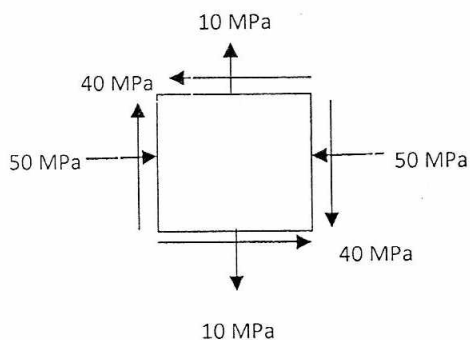

Fig. 4
- Find the Principal stresses, Maximum shear stress and respective angular positions for the stress element shown in Fig. 4.